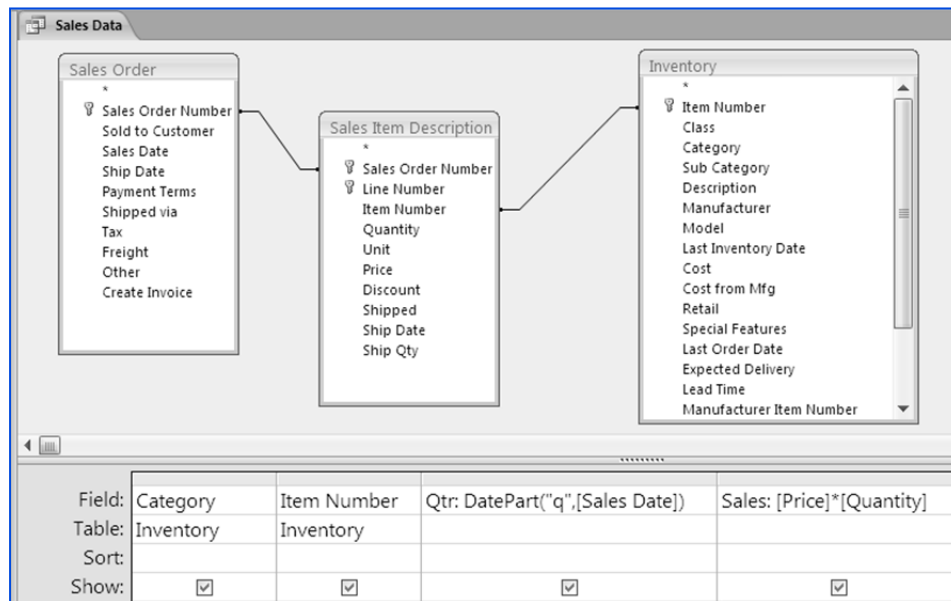

Fig. 2.5.1. Sales Data Query
1. The Query Sales data represents the summarized data for per quarter sale. The design of the query is displayed in Fig. 2.5.1.